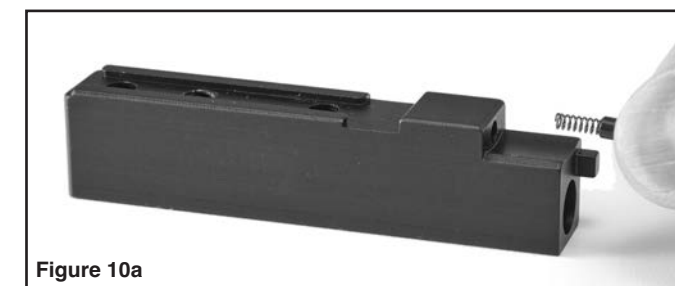

Figure 10a
1. Insert the detent spring and plunger into the takedown block, spring first. (See Figures 10a & 10b.)